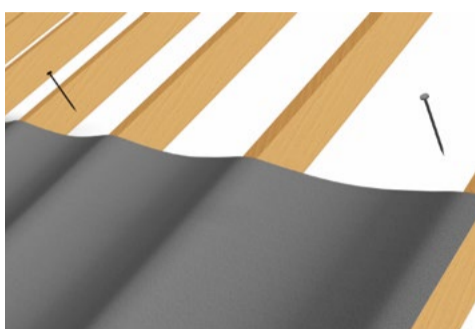

fig 2: Drape and nailing
3. Where unsupported, the Danelaw LR150 should be installed with a drape over timber rafters or counter battens of not less than 10mm and not greater than 15mm. It should be temporarily secured with the minimum number of clout nails above the upper overlap line at maximum 1200mm horizontal centres (fig. 2). Minimise any gaps in the horizontal laps resulting from different tautness in the underlay courses. The tile or slate battens should be installed at the appropriate gauge and fixed to provide the main anchorage point for the underlay.